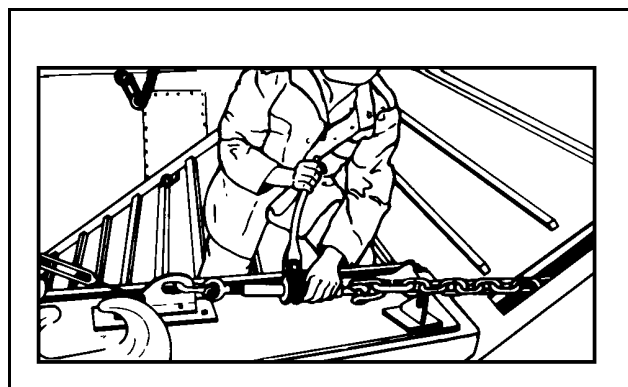

Figure 17-16. Securing the Ramp
- **Step 6.** Once the ramp is up tight against the bulkhead, drop the load binder into the slot and secure the ramp in place (Figure 17-16).